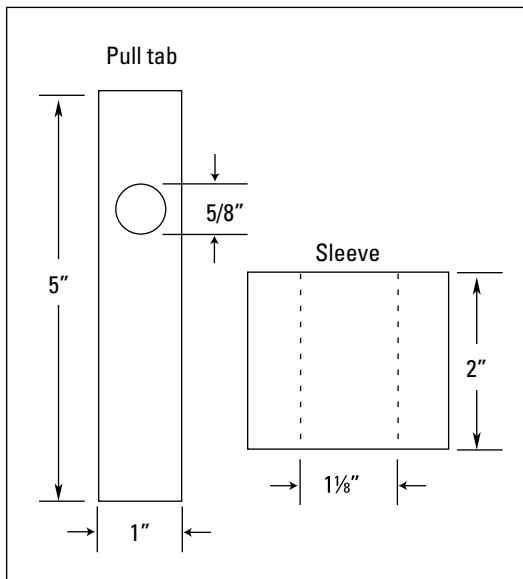

Figure 7-6:
7. Make the pull tab and sleeve, as shown in Figure 7-6.